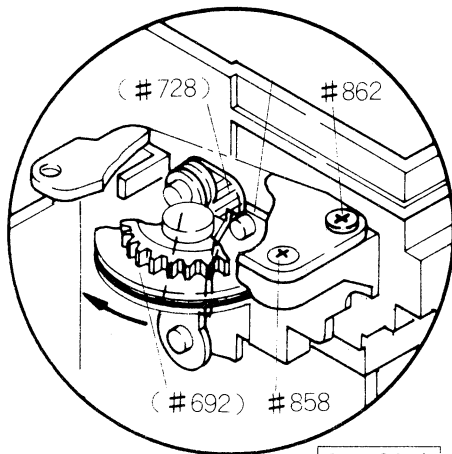

fig. 22-1
(fig. 22-1)
- 2) Rotate Winding roller (#692) clockwise until it contacts stopper (a part of #55; see fig. 22-1.)
Screw (+) #858, (+) #862 (fig.22-1)